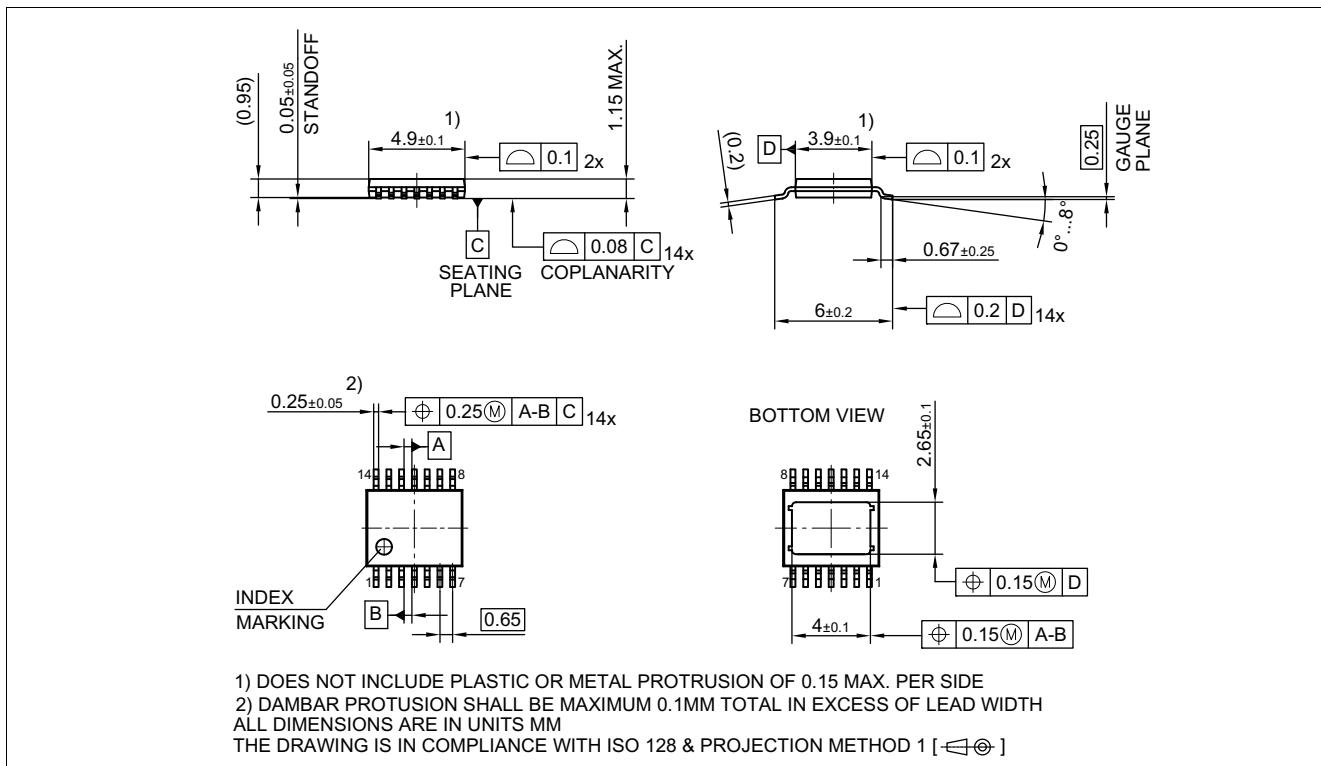
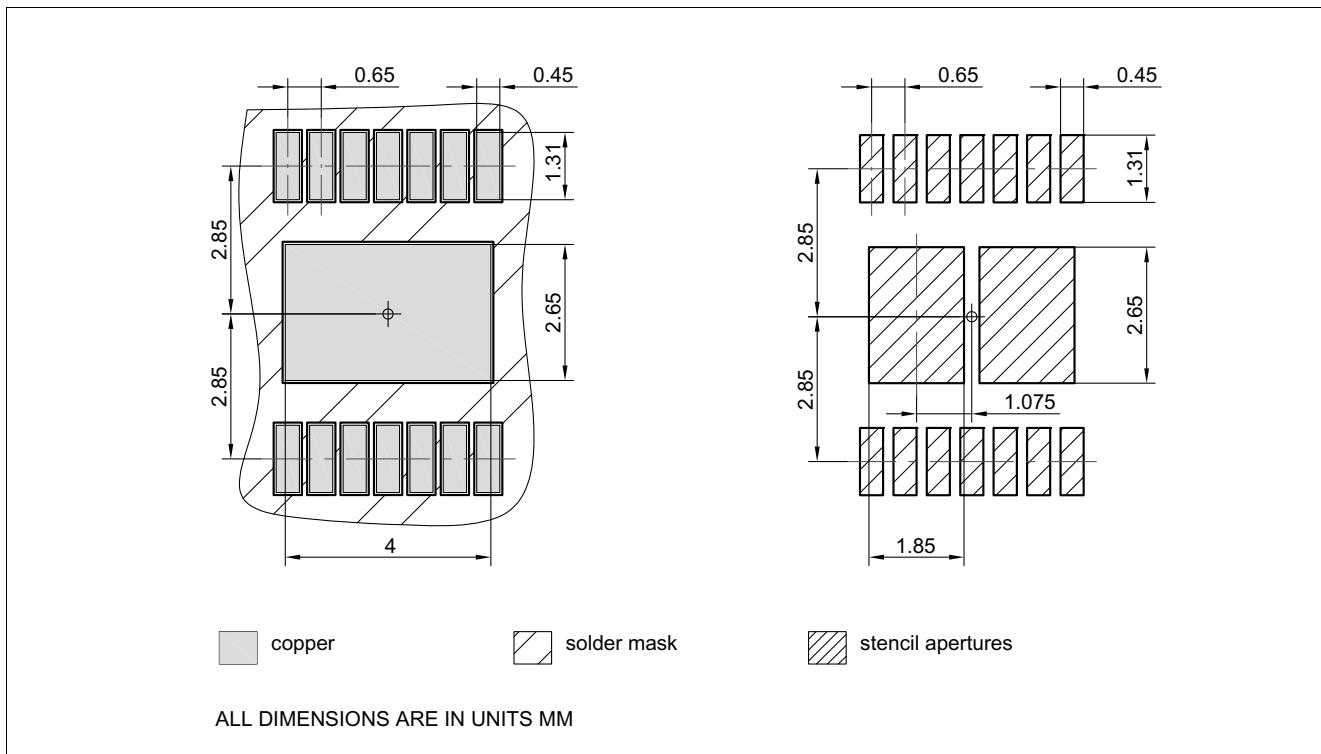

Figure 44 PG-TSDSO-14 (Thin (Slim) Dual Small Outline 14 pins) Package Outline
Figure 45 PG-TSDSO-14 (Thin (Slim) Dual Small Outline 14 pins) Package pads and stencil
1.03 , 2018-10-18	<p>Chapter 9.3.1 updated (typo) Page 1: updated (Package PG-TSDSO-14-22 → Package PG-TSDSO-14)</p> <p>Figure 29 updated</p> <p>Figure 44 updated (PG-TSDSO-14-22 (Thin (Slim) Dual Small Outline 14 pins) Package Outline → PG-TSDSO-14 (Thin (Slim) Dual Small Outline 14 pins) Package Outline)</p> <p>Figure 45 updated (PG-TSDSO-14-22 (Thin (Slim) Dual Small Outline 14 pins) Package pads and stencil → PG-TSDSO-14 (Thin (Slim) Dual Small Outline 14 pins) Package pads and stencil)</p> <p>Table 1 updated ((Symbol: $I_{VS(SLEEP)}$ → $I_{VS(SLEEP)_85}$), (Parameter: Minimum Overvoltage protection ($T_J = 25^\circ\text{C}$) → Minimum Overvoltage protection ($T_J \geq 25^\circ\text{C}$)) P_9.6.0.6 updated (Note or Test Condition: removed unnecessary line-break)</p> <p>Chapter 7.4.1 updated chapter title (PROFET → PROFET™)</p> <p>Table 12 updated table title (PROFET → PROFET™)</p> <p>Chapter 8.6.1 updated chapter title (PROFET → PROFET™)</p> <p>Table 16 updated table title (PROFET → PROFET™)</p> <p>Chapter 9.5.1 updated chapter title (PROFET → PROFET™)</p> <p>Table 21 updated table title (PROFET → PROFET™)</p> <p>P_4.1.0.21, P_4.1.0.22, P_4.1.0.23, P_4.1.0.24 updated (footnote ESD standards)</p> <p>Table 1 updated ($R_{DS(ON)}$ → $R_{DS(ON)_150}$), ($V_{DS(CLAMP)}$ → $V_{DS(CLAMP)_25}$)</p> <p>Chapter 8.5.2 updated phrasing</p> <p>P_7.5.4.14 Table subheading "Switching Energy" added</p> <p>P_7.5.4.15 Table subheading "Switching Energy" added</p> <p>Chapter 6.4 added conditions</p> <p>Chapter 7.5 added conditions</p> <p>P_7.5.4.14 updated (Test condition: add "See Figure")</p> <p>P_7.5.4.15 updated (Test condition: add "See Figure")</p> <p>Chapter 8.7 added conditions</p> <p>Chapter 9.6 added conditions</p> <p>P_9.7.4.27 updated (Test condition: add "See Figure")</p> <p>P_9.7.4.29 updated (Test condition: add "See Figure")</p> <p>Chapter 7.3.1 typo corrected (link to Figure 19 added)</p>